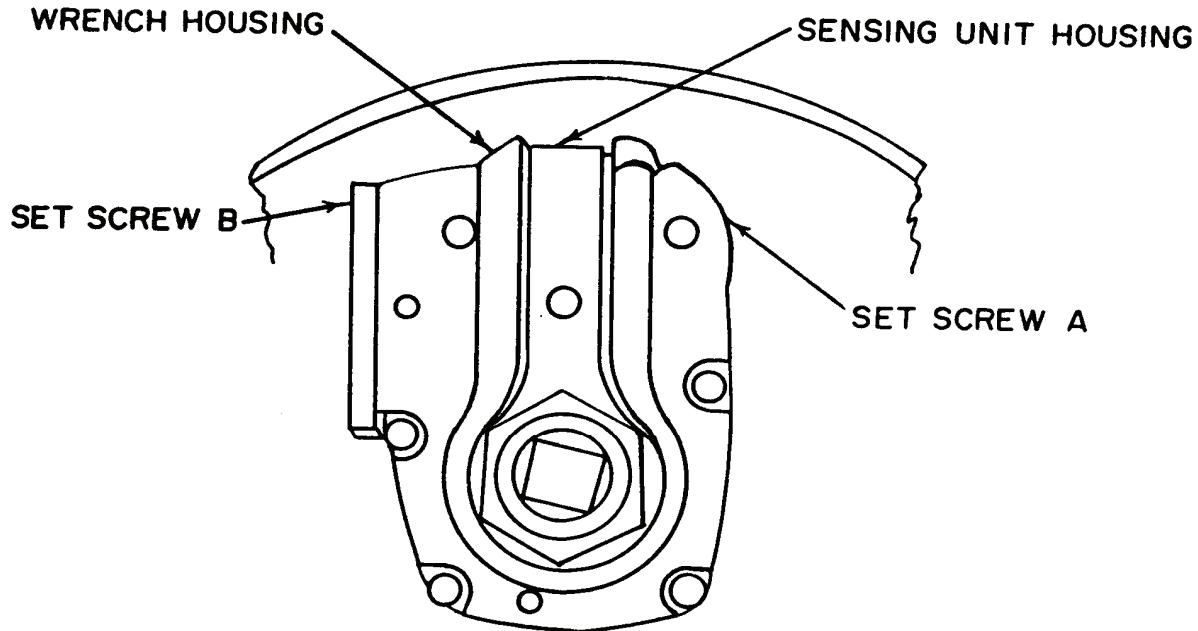

Figure 2. Calibration adjustments.
(5) Press the **SIGNAL ▲▼** to select the **GROSS** mode of operation. Press the **F4** key on the TI indicator until you see the **Acal** soft key. Press the **Acal** soft key as necessary to activate the **Acal** enunciator.
(6) Repeat (1) and (2) above in ccw direction.
(7) If TI indication error is the same in both cw and ccw directions, perform (a) through (d) below.
- (d) Rotate TI meter dial to indicate 300 (R).
(8) If TI indication error is not the same in both cw and ccw directions, adjust TI as indicated in (a) through (n) below.
- (c) Back off SET SCREWS A and B (fig. 2) at least three turns each.
- (j) Check spacing between SENSING UNIT HOUSING on reaction adapter and WRENCH HOUSING (fig. 2). SENSING UNIT HOUSING should be approximately centered in WRENCH HOUSING.